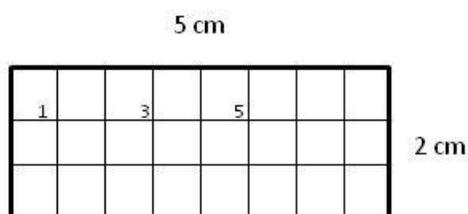

Figure 2.
32. Monitor each of the fractions by 1-dimensional TLC. As shown in Figure 2, carefully draw a grid in pencil on the surface of the TLC plate. Using a micropipetter spot 0.5 µl of each fraction in a numbered grid square. Observe the plate under UV lamp followed by charring with H2SO4/EtOH staining solution. Make note of the fractions which contain material.